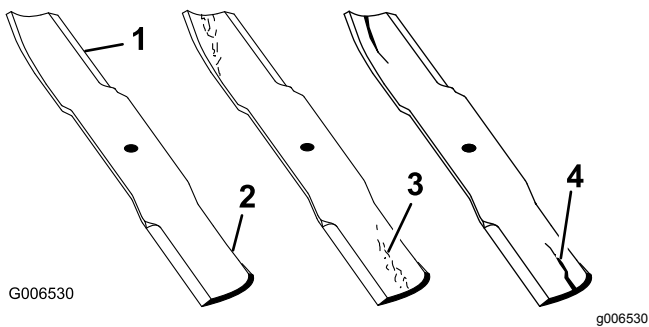

Figure 62
1. Inspect the cutting edges (Figure 62).
4. If you notice any cracks, wear, or a slot forming in this area, immediately install a new blade (Figure 62).